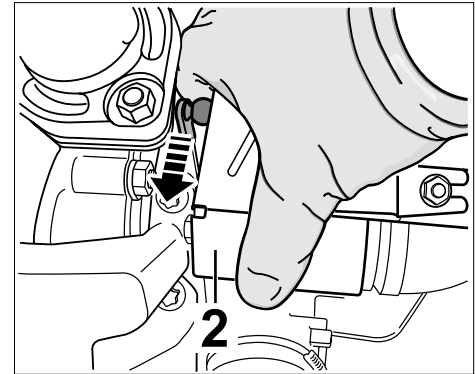

Figure 4
To do this, press the actuating rod at the bottom ball joint down firmly as far as possible with your fingers as shown in ⇒ Figure 4 (⇒ Figure 4 -arrow-). Support your hand on the heat shield (⇒ Figure 4 -item 2-) using your thumb while doing this. Then let go of the actuating rod.